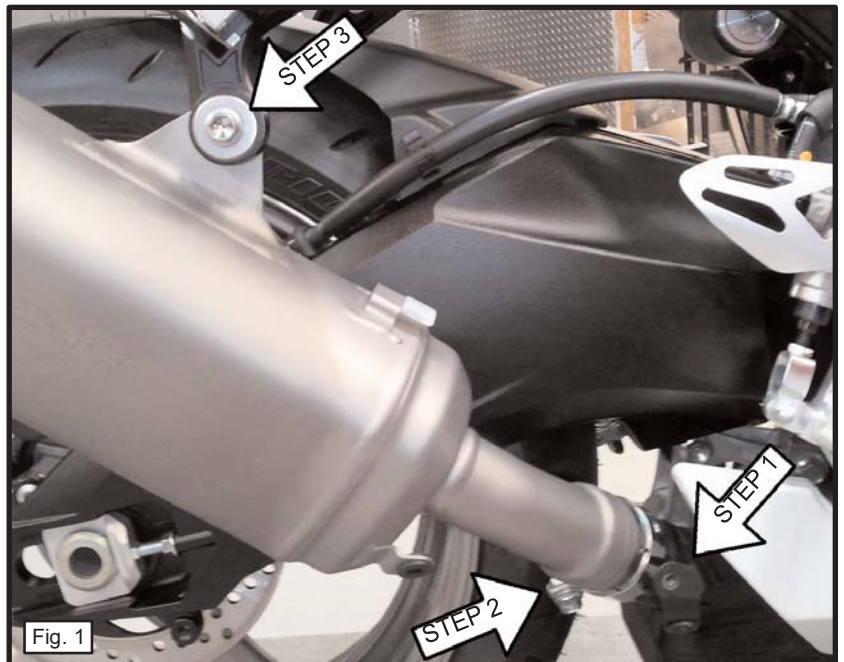

Fig. 1
- 1) Remove the bolt securing the metal cover to the stock midpipe, just beyond the fairing. Remove the cover. (Fig. 1)
- 2) Loosen the clamp bolt securing the stock midpipe to the catalytic box under the motor. (Fig. 1)
- 3) Remove the bolt securing the muffler to the right side passenger peg mount. Remove the stock muffler from the motorcycle. (Fig. 1)